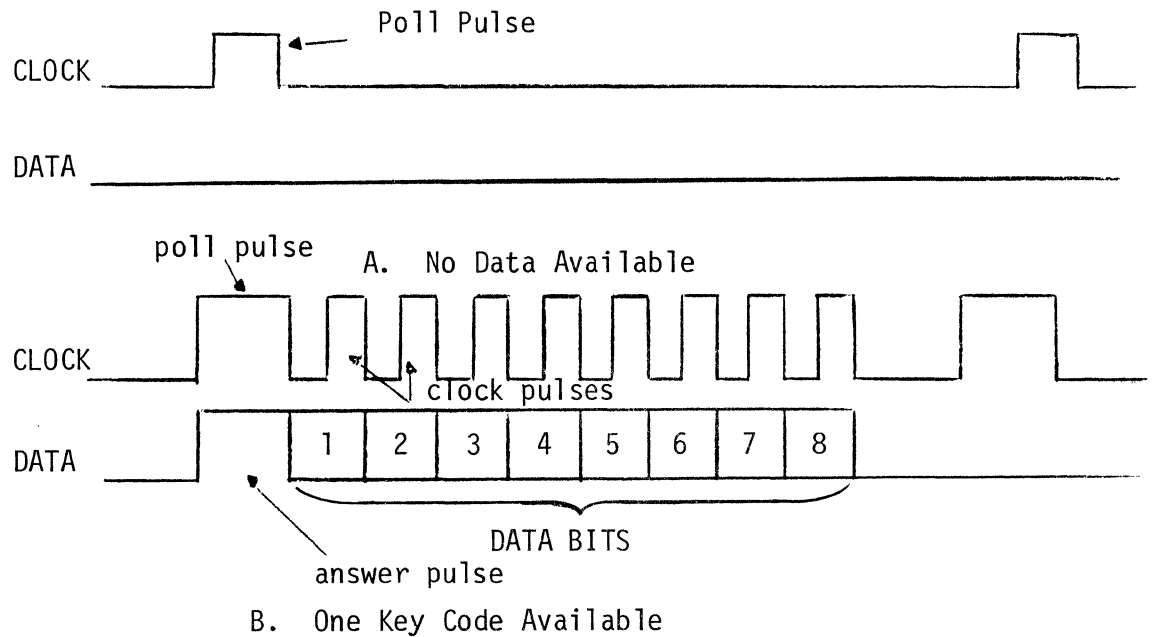

Figure 7. POLL/RESPONSE SERIAL INTERFACE TIMING
Another type of serial interface is a POLL/RESPONSE type of operation. The keyboard is polled by a pulse on a CLOCK line. If the keyboard has data, it answers with a PULSE on the DATA line. If the receiver system gets an answer, it comes back with eight (8) clock pulses on the CLOCK line and the keyboard puts data on the DATA line. Timing of this scheme is shown in Figure 7.